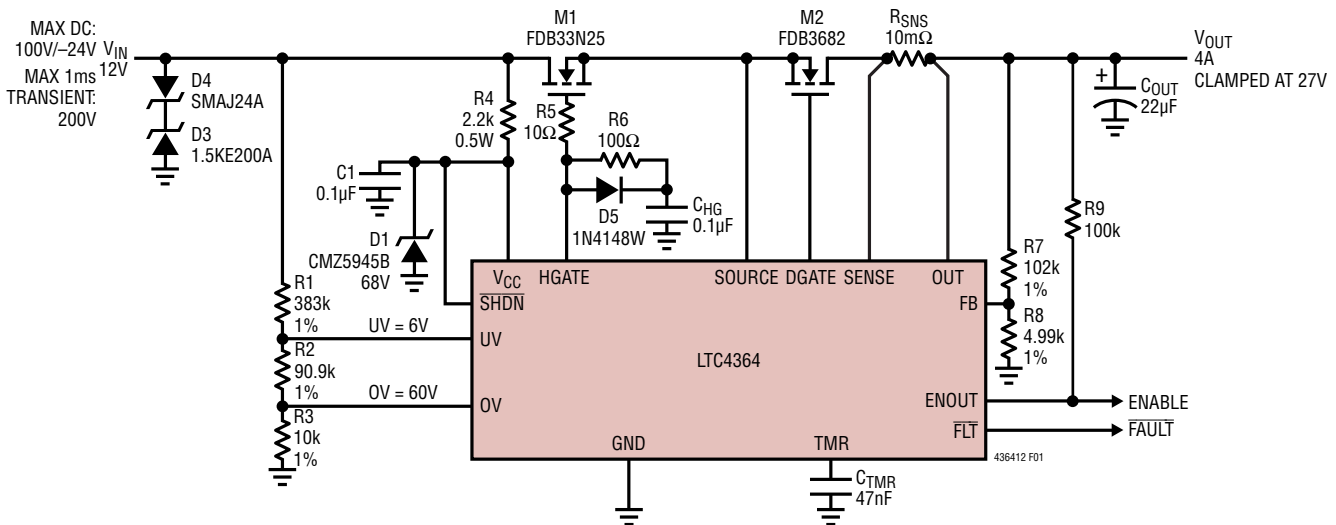
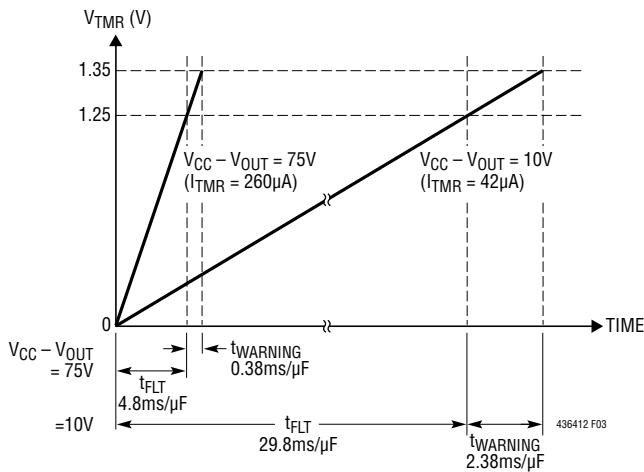

Figure 1. 4A, 12V Overvoltage Output Regulator with Reverse Current Protection
**Figure 2. External UV and OV Configuration Blocks Start-Up Into an Overvoltage Condition**
**$\Delta V_{HGATE}$  vs  $V_{IN}$  in Figure 1**
**$\Delta V_{DGATE}$  vs  $V_{IN}$  in Figure 1**
The LTC4364 drives an N-channel MOSFET (M1) at the HGATE pin to limit the voltage and current to the load circuitry during supply transients or overcurrent events. The selection of M1 is critical for this application. It must stay on and provide a low impedance path from the input supply to the load during normal operation and then dissipate power during overvoltage or overcurrent conditions. The LTC4364 also drives a second N-channel MOSFET (M2) at the DGATE pin as an ideal diode to protect the load from damage during reverse polarity input conditions, and to block reverse current flow in the event the input collapses. A typical application circuit using the LTC4364 to regulate the output at 27V during input surges with reverse input protection is shown in Figure 1.
Input overvoltage is detected with the OV pin and an external resistive divider connected to the input (Figure 1). At power-up, if the OV pin voltage is higher than its 1.25V threshold before the 100 $\mu\text{s}$  internal power-on-reset expires, or before the input undervoltage condition is cleared at the UV pin, the HGATE pin will be held low until the OV pin voltage drops below its threshold. To prevent start-up in the event the board is hot swapped into an overvoltage supply, separate resistive dividers with filtering capacitors can be used for the OV and UV pins (Figure 2). The RC constants should be skewed so that  $\tau_{\text{UV}}/\tau_{\text{OV}} > 50$ . In Figure 2, if the board is plugged into a supply that is higher than 60V, the LTC4364 will not turn on the pass devices until the supply voltage drops below 60V.
The LTC4364 detects input undervoltage conditions such as low battery using the UV pin. When the voltage at the UV pin is below its 1.25V threshold, the HGATE pin pulls low to keep the pass device off. Once the UV pin voltage rises above the UV threshold plus the UV hysteresis (50mV typical), the HGATE pin is allowed to pull up without going through a timer cycle. In Figure 1 and Figure 2, the input UV threshold is set by the resistive dividers to 6V. An undervoltage condition does not produce an output at the  $\overline{\text{FLT}}$  pin.
The LTC4364 drives two N-channel MOSFETs, M1 and M2, as the pass devices to conduct the load current (Figure 1). The important features are on-resistance,  $R_{\text{DS(ON)}}$ , the maximum drain-source voltage,  $V_{(\text{BR})\text{DSS}}$ , the threshold voltage, and the safe operating area, SOA (for M1).
The added gate capacitor slows down the turn-off time during fault conditions and allows higher peak currents to build up during an output short event. If this is a concern, an extra resistor,  $R_6$ , in series with  $C_{HG}$  can restore the turn-off time. A diode,  $D_5$ , should be placed across  $R_6$  with the cathode connected to  $C_{HG}$  as shown in Figure 1. In a fast transient input step,  $D_5$  provides a bypass path to  $C_{HG}$  for the benefit of holding HGATE low and preventing self enhancement.
The LTC4364 is tested to operate to 80V and guaranteed to be safe from damage between 100V and –40V. Voltage transients above 100V or below –40V may cause permanent damage. During a short-circuit condition, the large change in current flowing through power supply traces coupled with parasitic inductances from associated wiring can cause destructive voltage transients in both positive and negative directions at the  $V_{CC}$ , SOURCE, and OUT pins. To reduce the voltage transients, minimize the power trace parasitic inductance by using short, wide traces. A small RC filter (R4 and C1 in Figure 1) at the  $V_{CC}$  pin filters high voltage spikes of short pulse width.
Another way to limit supply transients above 100V at the  $V_{CC}$  pin is to use a Zener diode and a resistor, D1 and R4, as shown in Figure 1. D1 clamps voltage spikes at the  $V_{CC}$  pin while R4 limits the current through D1 to a safe level during the surge. In the negative direction, D1 along with R4 clamps the  $V_{CC}$  pin near GND. The inclusion of R4 in series with the  $V_{CC}$  pin increases the minimum required supply voltage due to the extra voltage drop across the resistor, which is determined by the supply current of the LTC4364 and the leakage current of D1. 2.2k adds about 1V to the minimum operating voltage.
For sustained, elevated supply voltages, the power dissipation of R4 in Figure 1 becomes unacceptable. This can be resolved by using an external depletion mode N-channel MOSFET to replace R4 (M1 in Figure 7a) or using an external NPN transistor (Q1 in Figure 7b) as a buffer. To protect Q1 against supply reversal, block the collector of Q1 with a series diode or tie it to the cathode of D3 and D4 in Figure 1.
Transient suppressor D3 in Figure 1 clamps the input voltage to 200V for voltage transients higher than 200V, to prevent breakdown of M1. It also blocks forward conduction in D4. D4 limits the SOURCE pin voltage to 24V below GND when the input goes negative.  $C_{OUT}$  helps absorb the inductive energy at the output upon a sudden input short, protecting the OUT and SENSE pins.